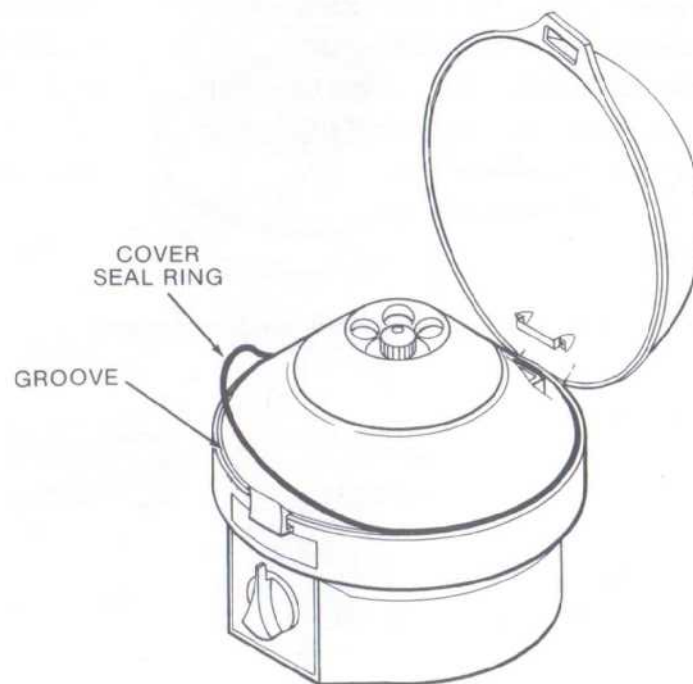

Figure 5-1. Cover Seal Ring.
- Remove worn cover seal ring by peeling it from groove of housing (Figure 5-1).
- Orient new ring as shown in Figure 5-1, and press firmly around circumference of groove. Make sure that open space between ends of ring is at rear of centrifuge.